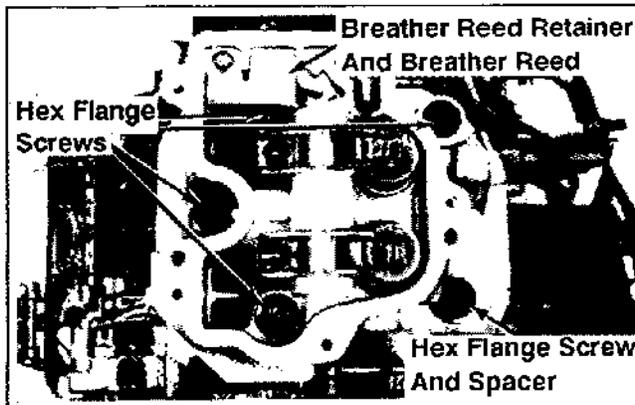

Figure 9-23. Removing Cylinder Head.
1. Remove the hex flange screws, spacer (from the screw by the exhaust port), cylinder head, push rods, and cylinder head gasket. See Figures 9-23 and 9-24.